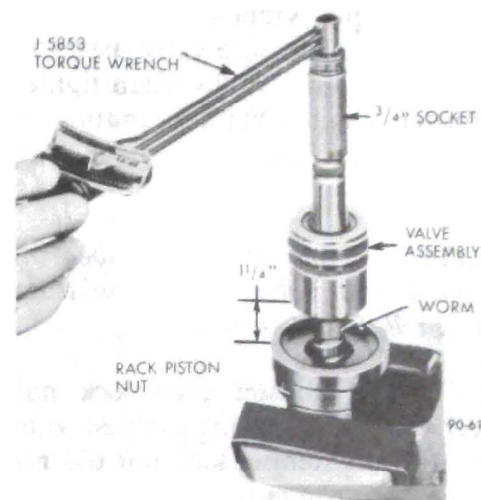

Figure 90-73 Checking Rack-Piston Nut Ball Preload
8. The worm groove is ground with a high point in the center. When the rack-piston nut passes over this high point, a preload of 1 to 5 pound inch should be obtained. To measure the preload of the assembly, lightly clamp rack-piston nut in a soft jaw vise with worm pointing up. Do not distort rack-piston nut by tightening too heavily. Place valve assembly on worm, engaging worm drive pin. Rotate the worm until it extends 1-1/4 inches from the edge of rack-piston nut to the thrust bearing face of worm; this is the center position. Attach torque wrench J-5853 with 3/4 inch, 12 point socket to the stub shaft. See Figure 90-73. Rotate the wrench through a total arc of approximately 60 degrees (1/6 turn) in both directions several times and take a reading. The highest reading obtained with the worm rotating should be from 1 to 5 pound inch. If the reading is too high, disassemble and reassemble, using the next size smaller plain balls and recheck. (A rack-piston nut with a ball size of 7 does not have a number stamped on the flat surface. For ball sizes other than 7, the ball size is stamped on the flat surface of the rack-piston nut.) If the reading is too small, use the next size larger plain balls and recheck. See paragraph 90-11, subparagraph b for ball size. Remove valve assembly from worm.